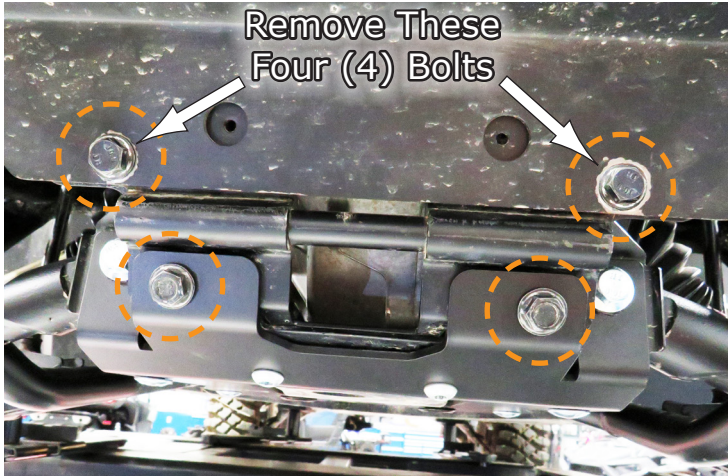

Fig.1a
1. The first thing you need to do is **Remove the Four (4) Bolts** from the front of the machine as shown in Fig.1a-b.